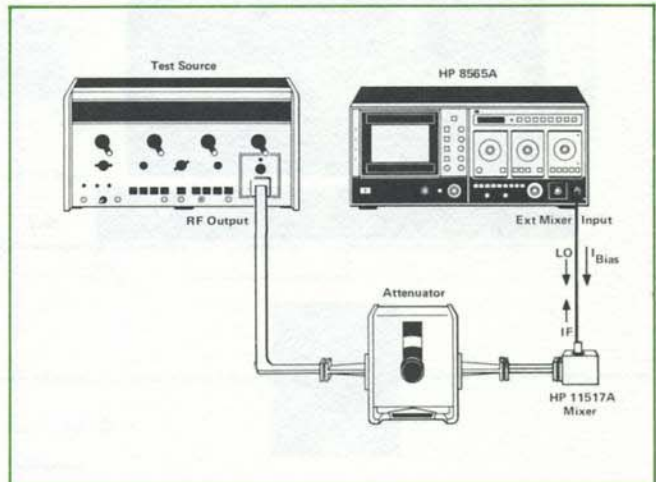

Figure 20. External mixer test set-up
A connection diagram of the HP 8565A with the HP 11517A External Mixer and adapter is illustrated in Figure 20.
1. Set up equipment as shown in Figure 20.